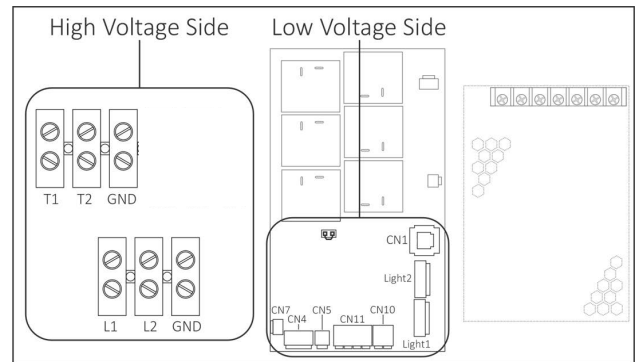

Figure 15. CB Box Interior
- Route the other end of the RJ11 control cable through an access hole located on the bottom of the low-voltage side of the CB Box. See Figure 15.